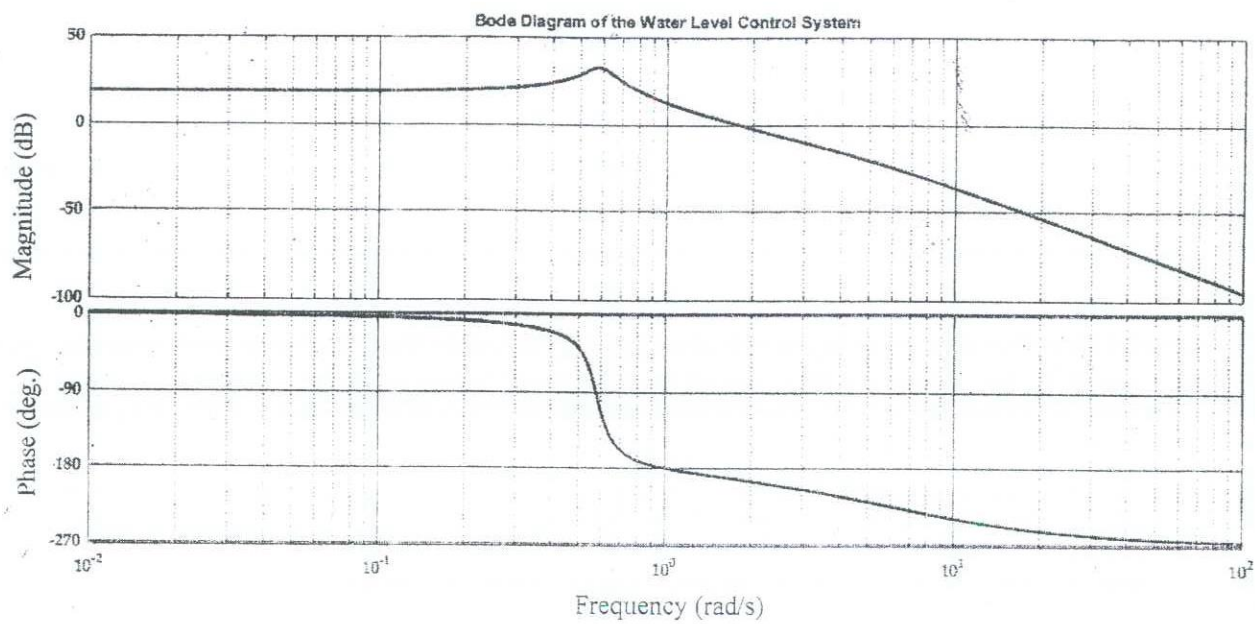

Figure Q4 (c)
- c) The Bode plots for the open-loop plant of a water level control system of a tank is shown in Figure Q4 (c).